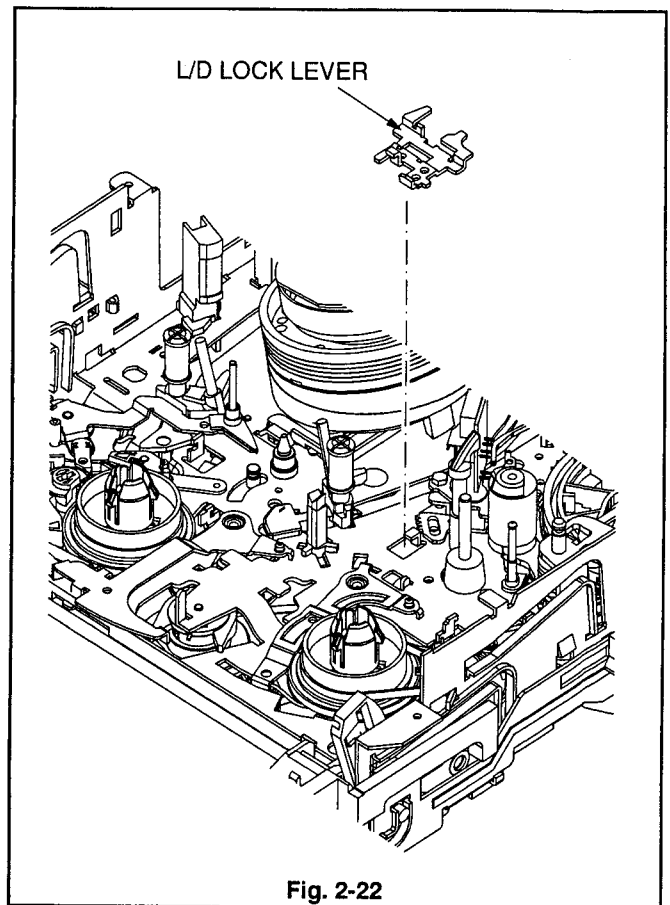

Fig. 2-22
1. Remove the L/D LOCK LEVER shown in the Fig. 2-22.
1. Install the L/D LOCK LEVER shown in Fig. 2-22.